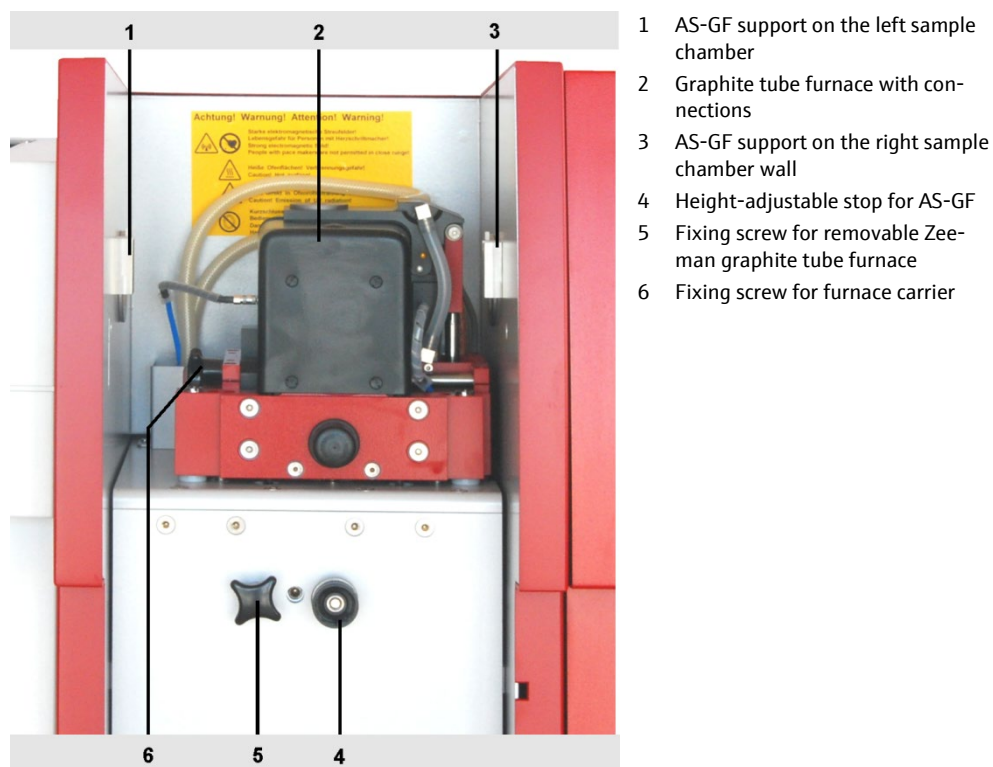

Fig. 32 Elements in the sample chamber for the graphite tube technique
4. Hang the AS-GF on the supports in the sample chamber (1 and 3 in Fig. 32 p. 56). Using a spirit level, check whether the autosampler is suspended horizontally; if necessary, align the autosampler using the depth-adjustable stop in the sample chamber (4 in Fig. 32 p. 56).